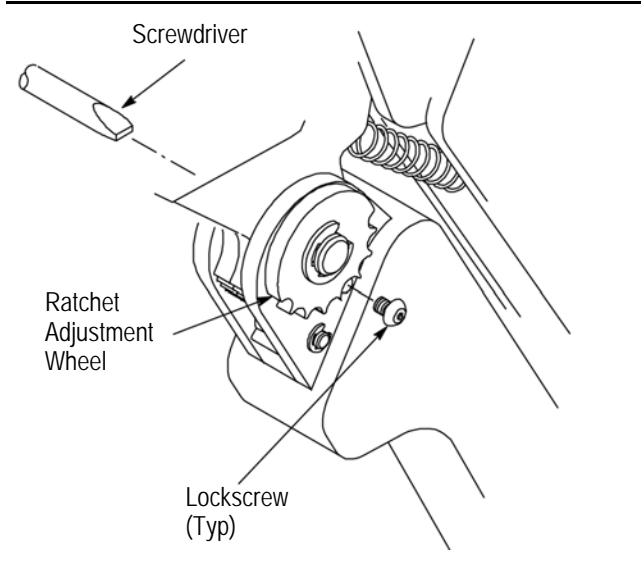

Figure 5
**7. RATCHET (Crimp Height) ADJUSTMENT (FIGURE 5)**